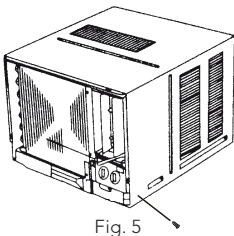

Fig. 5
- 5 Fix the chassis and cabinet. (see Fig.5)